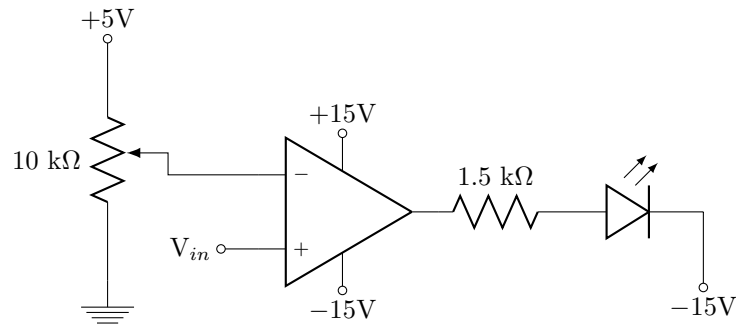

Figure 5: A comparator with a 10 kΩ potentiometer to provide an adjustable comparison voltage.
- (9) Construct the circuit shown in figure 5. Ensure that the LED is placed with the correct polarity, where the long leg is positive and the flat side of the LED casing is negative. Remember to include bypass capacitors as in previous sections.
- (10) Connect the input of this circuit  $V_{in}$  to the function generator (FGEN) on the prototype board. Input a 10 Hz 10V p-p sine wave into the comparator, and simultaneously observe  $V_{in}$  and the output of the op-amp on the oscilloscope. Adjust the potentiometer and observe how the circuit works.
- (11) Remove the function generator from  $V_{in}$  and connect the output of your probe circuit in its place. Set the potentiometer to an appropriate level and observe your pulse. Using the flashing LED, measure your heart rate and give an associated error. Describe the technique that you use in your report.